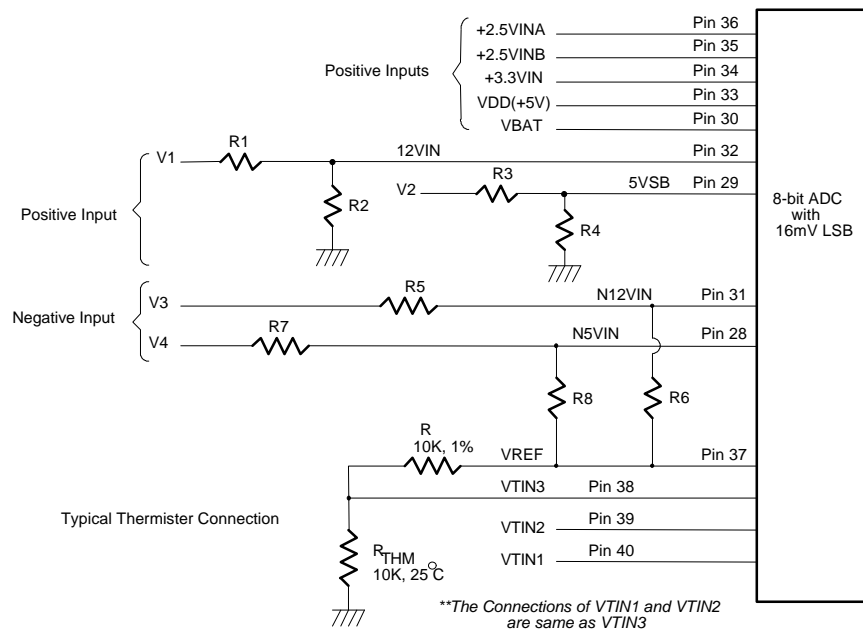

Figure 11.
The maximum input voltage of the analog pin is 4.096V because the 8-bit ADC has a 16mV LSB. Really, the application of the PC monitoring would most often be connected to power suppliers. The CPU V-core voltage ,+3.3V and battery voltage can directly connected to these analog inputs. The 5VSB and +12V inputs should be reduced a factor with external resistors so as to obtain the input range. As Figure 11 shows.
The negative voltage should be connected two series resistors and a positive voltage VREF (is equal to 3.6V). In the Figure 11, the voltage V3 and V4 are two negative voltage which they are -12V and -5V respectively. The voltage V3 is connected to two serial resistors then is connected to another terminal VREF which is positive voltage. So as that the voltage node N12VIN can be obtain a posedge voltage if the scales of the two serial resistors are carefully selected. It is recommended from Winbond that the scale of two serial resistors are R5=232K ohms and R6=56K ohm. The input voltage of node -12VIN can be calculated by following equation.
The W83782D can connect three thermistors to measure three different environment temperature. The specification of thermistor should be considered to (1) β value is 3435K, (2) resistor value is 10K ohms at 25°C. In the Figure 11, the thermistor is connected by a serial resistor with 10K Ohms, then connect to $VREF$ (Pin 37).